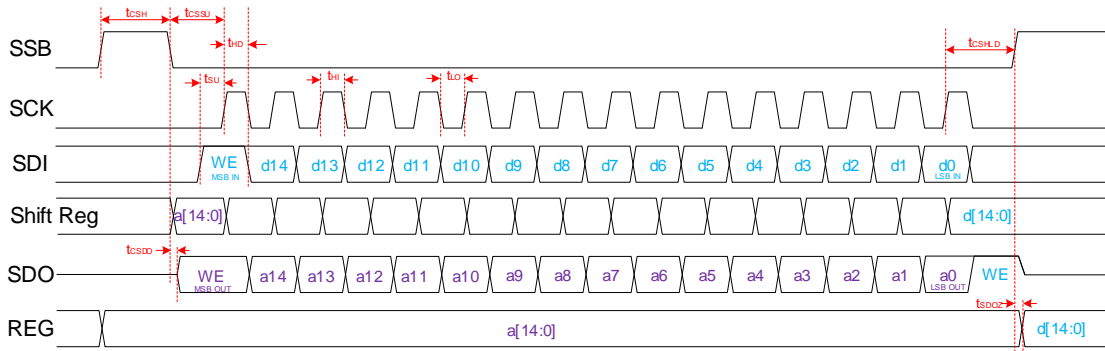

Figure 8. SPI Timing Diagram
SPI timing diagrams are provided in Figure 8 through Figure 13. In SPI mode, data transmission starts when SSB goes Low, causing the Target to output the Most Significant Bit (MSB) of data to the SDO (MISO) pin. Data transfer from Host to Target takes place during the rising edge of the clock (SCK), which is idle when SSB is High. This mode of operation requires data for Host and Target to be present on SDI (MOSI) before the rising edge of the clock (defining SDI to SCK setup time). Data is pushed out of the SDO (MISO) pin during the falling edge of the clock. After the first 16-bit transaction, Host writes the latest data (DN) to